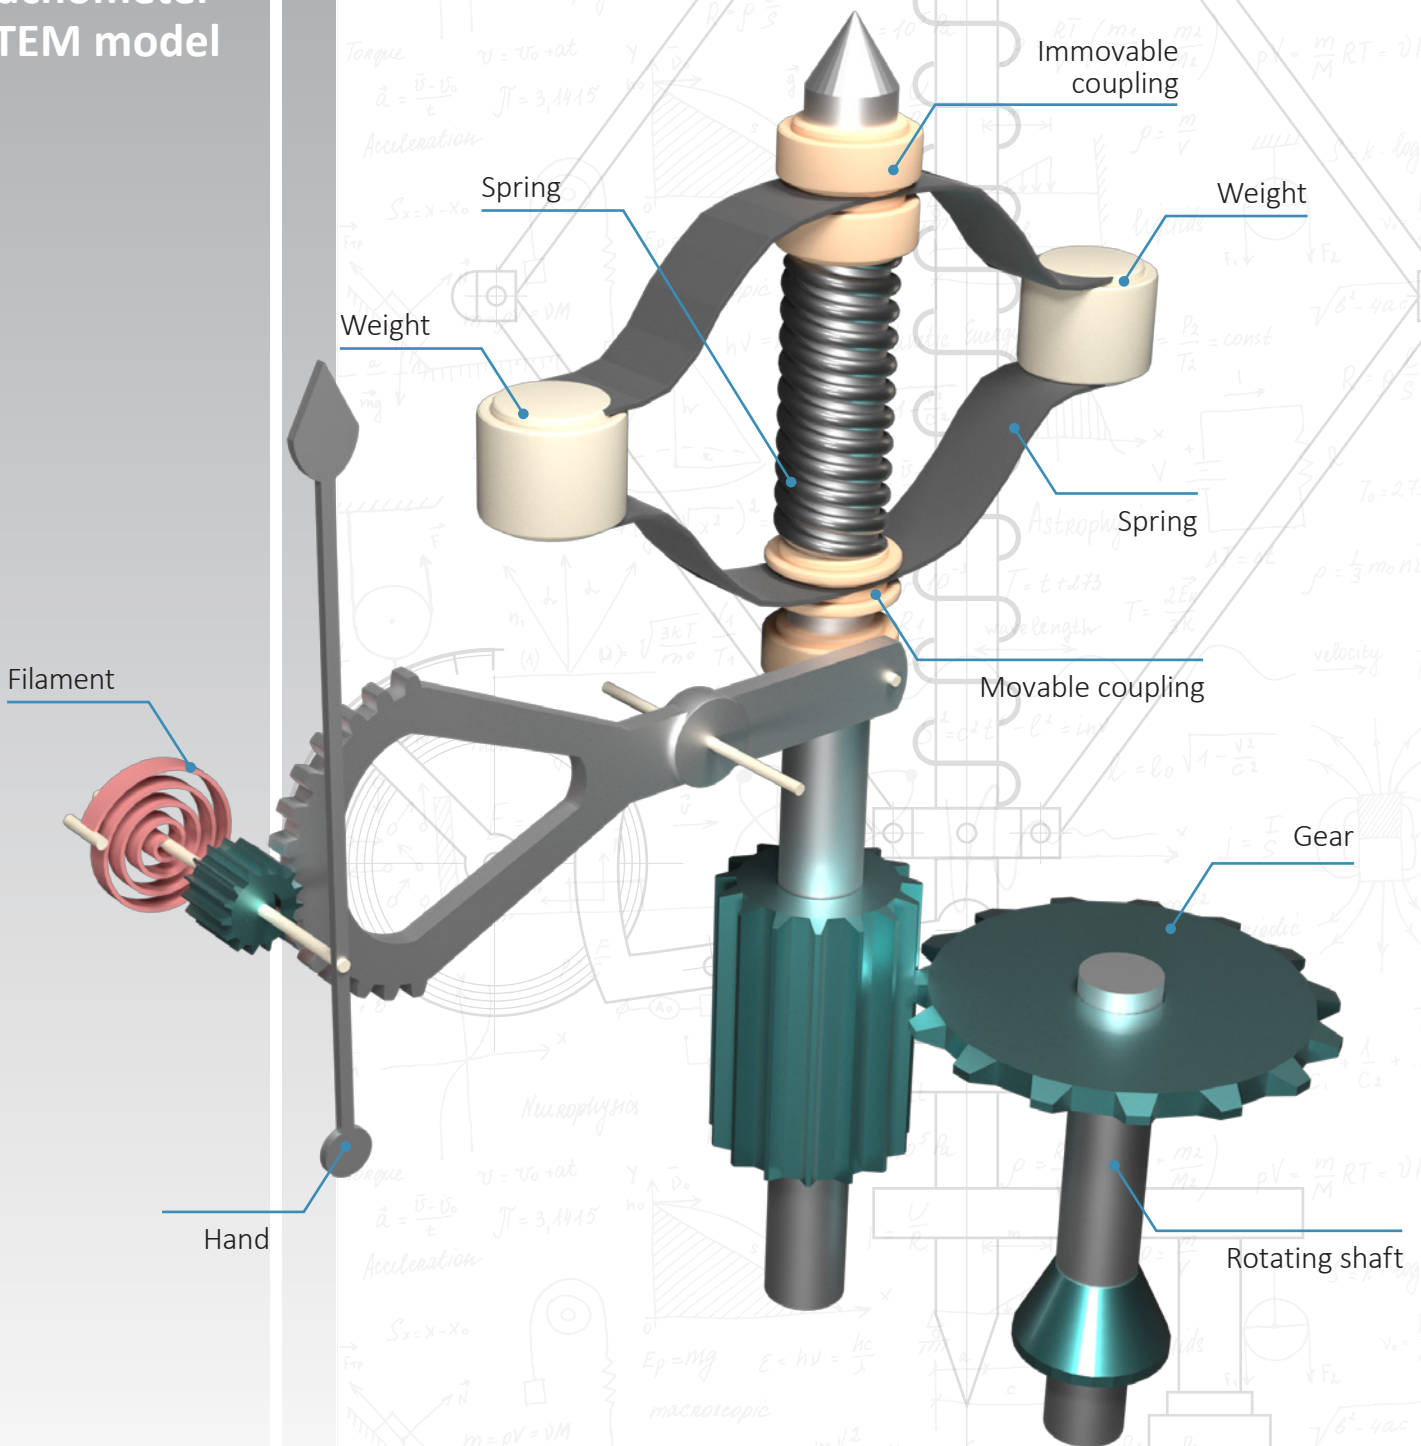

Fig. 2 Centrifugal tachometer scheme
A centrifugal tachometer (Fig. 2) contains a rotating shaft (4), on which several weights (1) are located. These weights are acted upon by centrifugal force. As a rule, in tachometers the weights are placed symmetrically, and they interact with a spring. The centrifugal force and the restoring force of the spring (5) jointly affect the position of the movable coupling. The spring, in the absence of rotation, moves the coupling to its uppermost position.
In the absence of rotation, the coupling remains in its uppermost position (as shown in Fig. 2). When the shaft rotates with a certain rotational speed, under the influence of centrifugal force, the spring is compressed—in other words, the centrifugal force overcomes the restoring force of the spring. As rotational speed increases, the coupling moves downward in proportional to the speed.